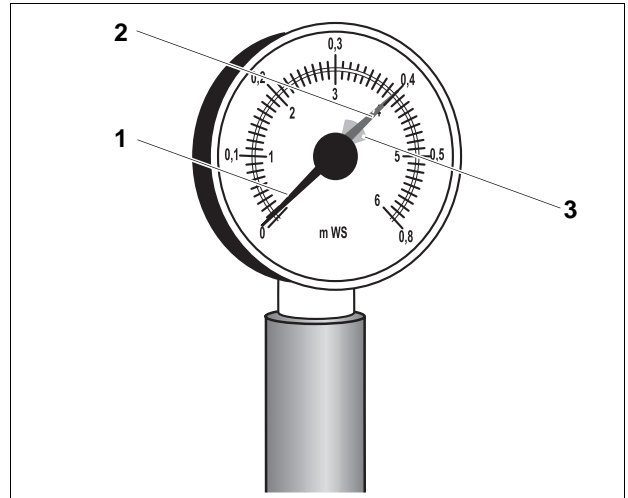

Fig. 4 Pressure gauge for open systems
On open systems the pressure gauge needle (Fig. 4, **item 1**) must be within the red range (Fig. 4, **item 3**).